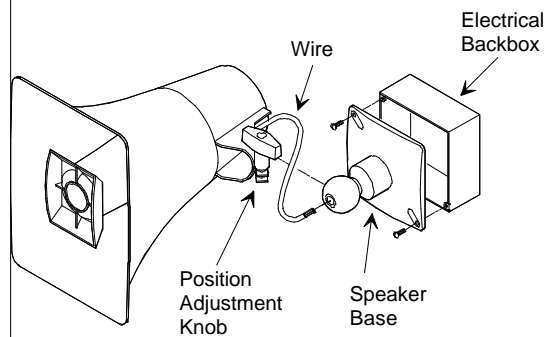

Figure 2 - Mounting to an Electrical Backbox
- Connection to an electrical backbox is accomplished by channeling wire through the ball of the base and making appropriate connections. The base has holes punched for a double-gang square box, but by punching out additional knockout holes, the base can be mounted to a single-gang or octagon box. (See Figure 2).